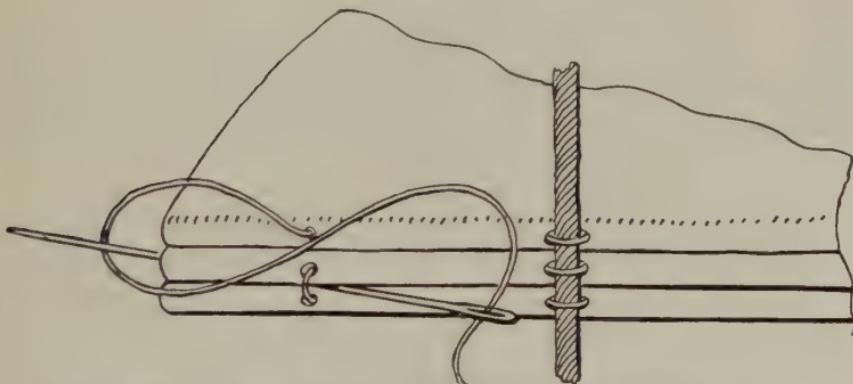

FIG. 172—PROPER METHOD OF MAKING “KETTLE-STITCH”
12. Tie the loose end of thread projecting from (A) of first section sewn, to your continuous thread at (A) of second section.
13. Place your third section, and entering at (A) proceed to sew across as before. When you reach (G) this time, before placing a new section and starting back again, *first* form your kettle-stitch by passing needle and thread *under* the (G) stitch which holds the first and second sections at that point (see Fig. 172). This makes the “kettle” or “lock-stitch,” sometimes termed the “catch-stitch.”
14. Proceed again and when you reach kettle-stitch (A) again, make your “kettle” stitch as at (G).